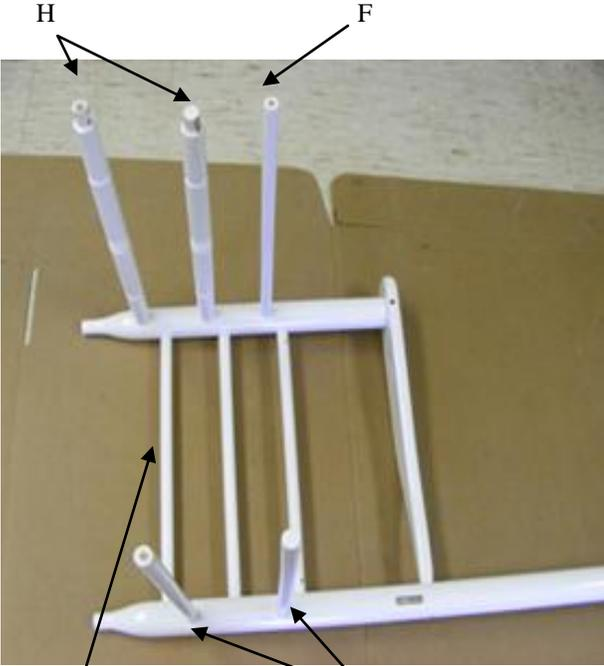

FIG. 1 G-L E
Lay Chair Side Left (G-L) on the holes facing up on the shipping box to protect the finish. Install Front Spindle (F) Turned Spindles (H), and Back Spindles (E) as shown in Figure 1.